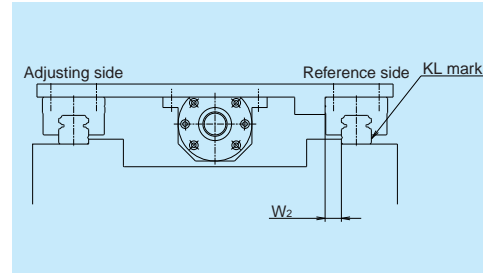

Fig. 9.2 Most common setting of the reference side rail
- When the datum faces of the reference side rail and slides are pressed to their mounting datum faces respectively, the variation of distance (mounting width W_2 or W_3) between the datum faces of the rails and that of the slides must be a minimum and therefore, it is specified as the standard. (Fig. 9.2 and 9.3)